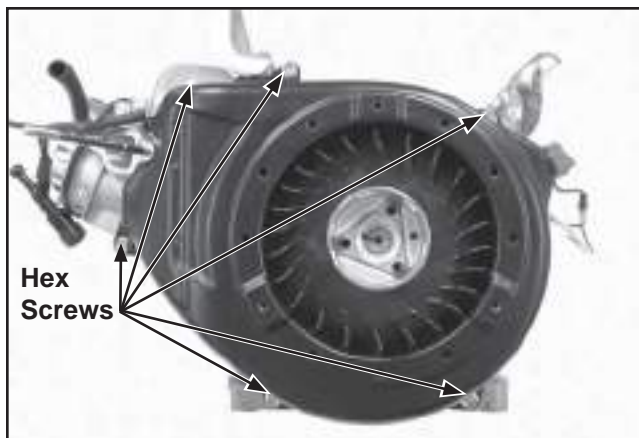

Figure 11-72. Install Blower Housing.
2. Install the blower housing on the crankcase with the hex flange screws. Torque screws to  $10 \text{ N}\cdot\text{m}$  ( $89 \text{ in. lb.}$ ). See Figure 11-72.